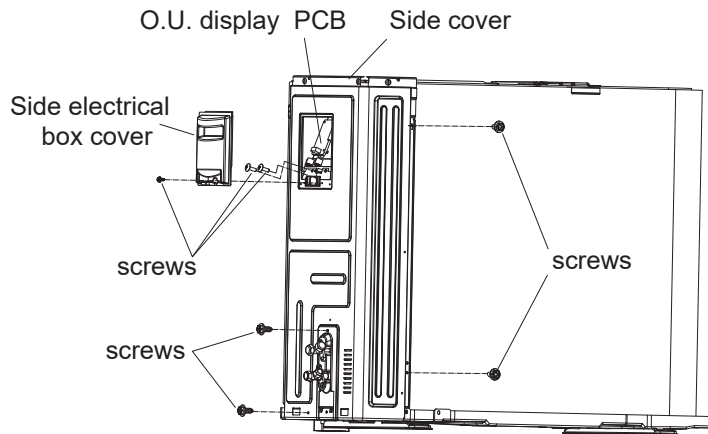

Fig.2.4
3. Remove the side electrical box cover and side electrical box components, and remove the right side cover components, as is shown in Fig.2.4.